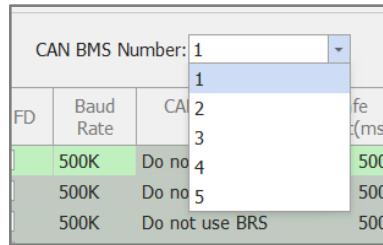

Figure 13-21 Select the Number of CAN Ports
- 1) **Meta Variable Name** – The meta variable name is predefined in Mits x and cannot be edited. Meta Variables are used to store the values of CAN signals and make them available to use in Schedule. The name is defined as CAN_MV_RXn, where n = 1, 2,...,2500. Figure 13-21: The CAN BMS value will be displayed in the “CAN BMS” Interface of the “Channel View” of the Monitor interface in the Console.